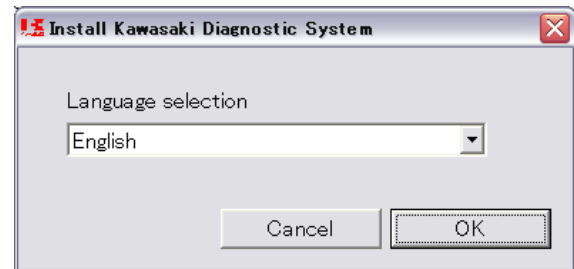

Fig. 2-12 Language Selection
- Select the language, then OK. Fig. 2-12